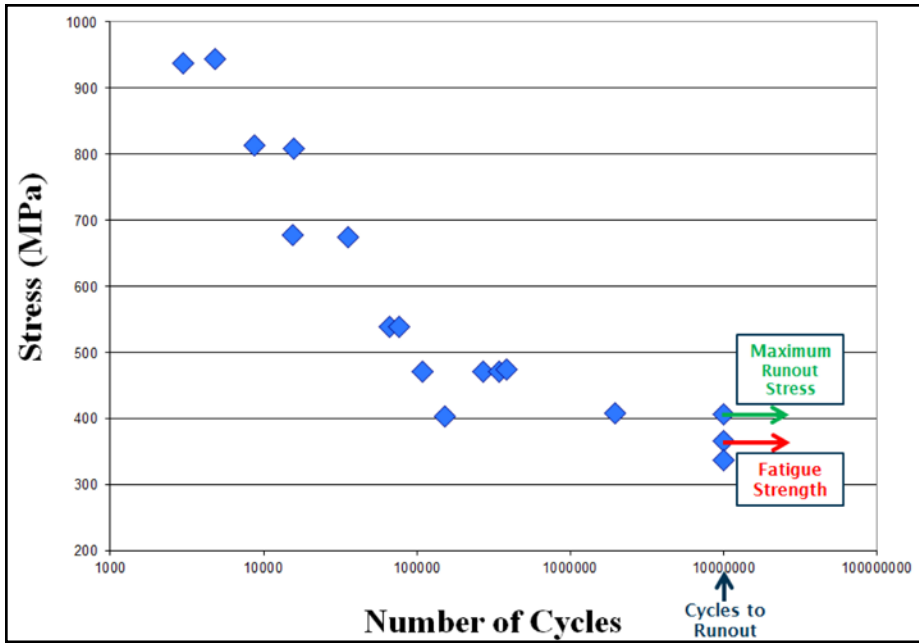

Figure 8 A depiction of how the key metrics were determined from the S-N type curve data.
Two key fatigue metrics were measured for the Brugger and RBF tests. The maximum runout stress (MRS), as the name implies, was the highest stress level at which at least one specimen in a given test group reached the test suspension bogey. The second metric was fatigue strength (FS) (note that the fatigue strength is occasionally referred to as fatigue or endurance limit.), defined as the maximum stress level, at or below which no samples within a group failed. These two metrics are graphically displayed in one of the experimentally generated S-N curves (Group C – Transverse Orientation) shown in Figure 8.